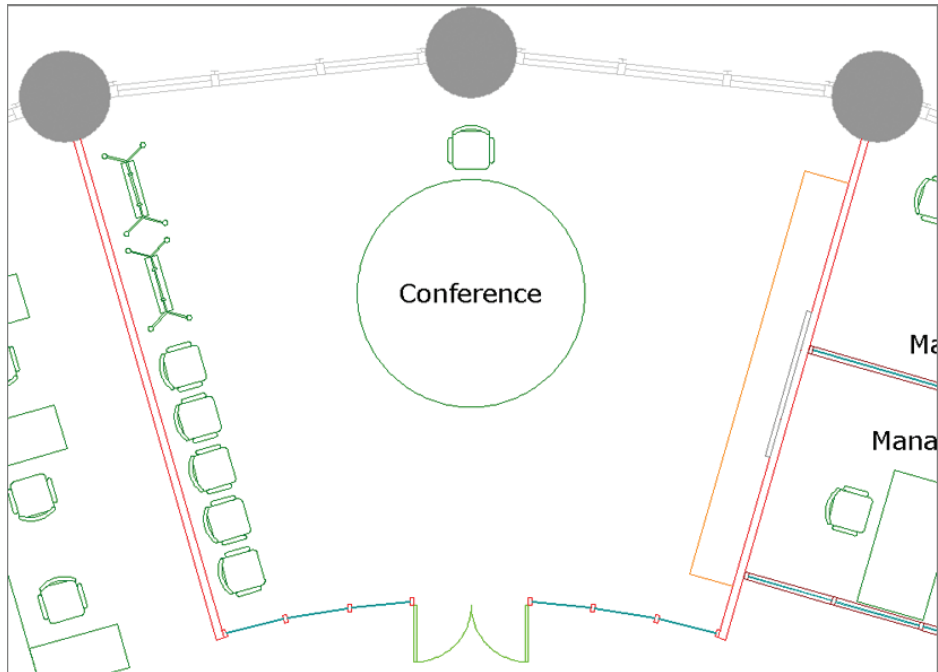

FIGURE 4.20 The Conference room
2. Navigate to the Conference room at the top of the plan (see Figure 4.20).